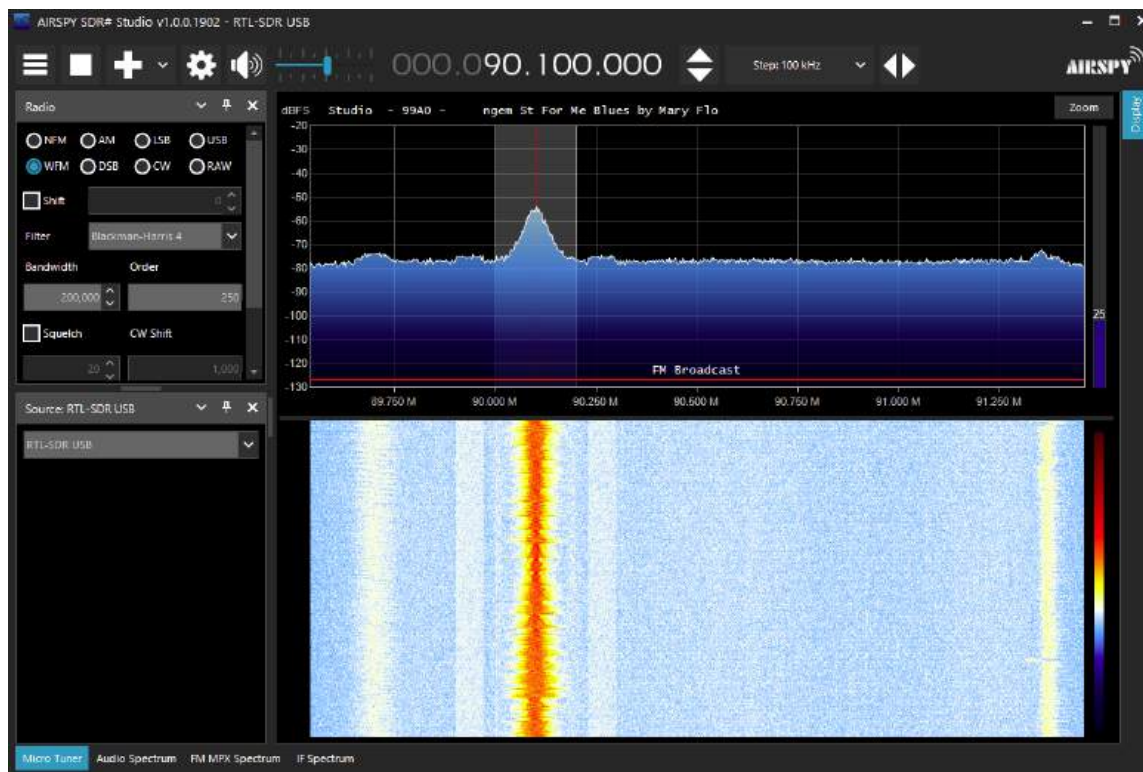

Figure 12.4: Demodulating an FM station in SdrSharp.
1. Find at least three FM stations and write down their center frequencies. See if you can find ISU’s student-run radio station, KURE, or the Iowa Public Radio station, WOI. Feel free to google a list of local FM radio stations. Fig. 12.4 gives an example of one such FM station.